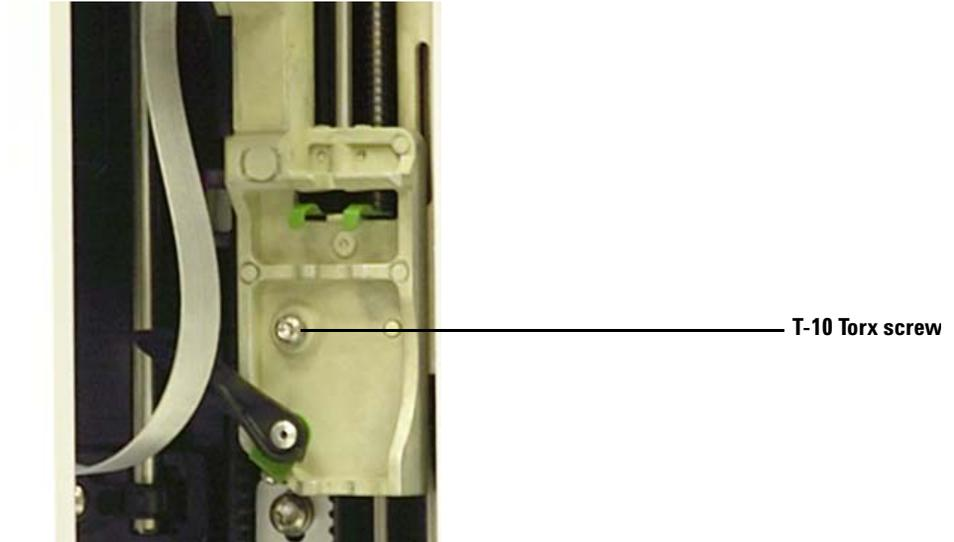

Figure 101 Removing the T-10 Torx screw above the syringe latch
- 9 Completely loosen and remove the T-10 Torx screw above the syringe latch (Figure 101).